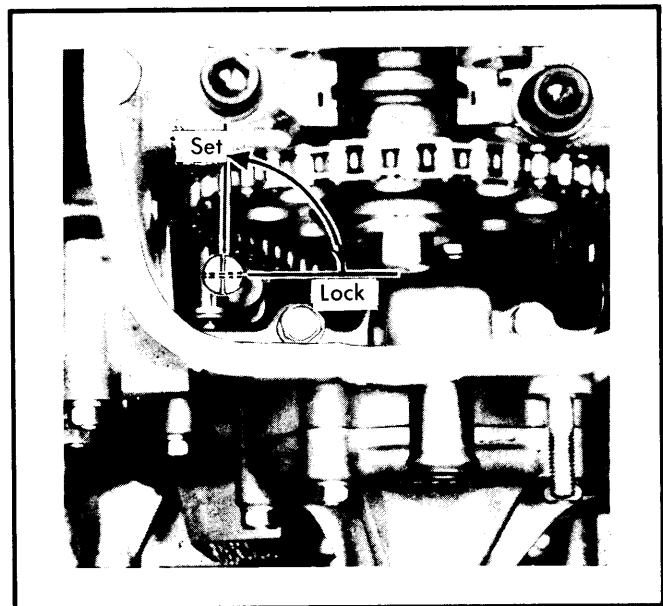
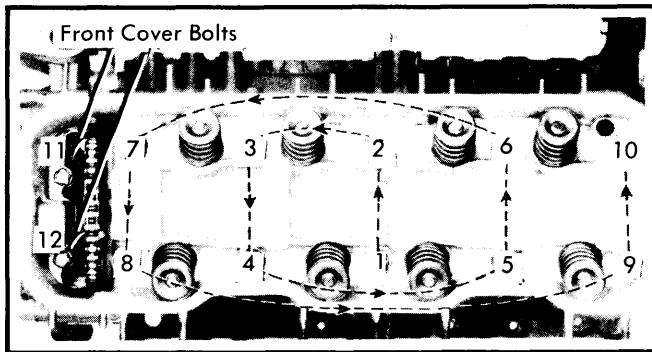
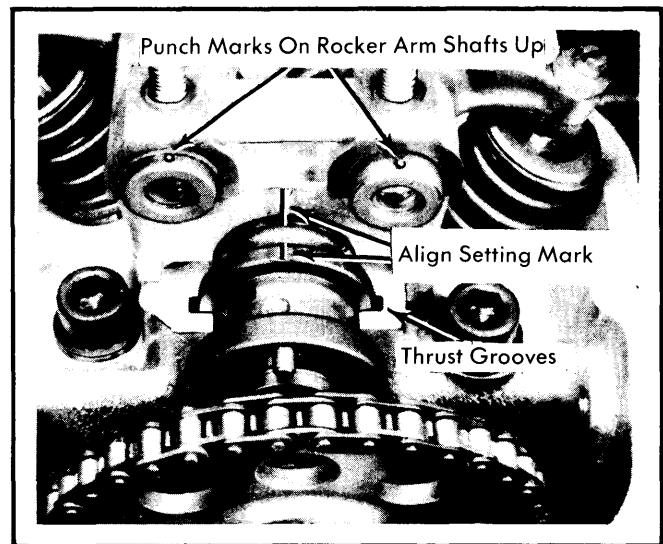

Fig. 1 Locking Timing Chain Adjuster
Fig. 2 Cylinder Head Bolt Loosening & Tightening Sequence
Fig. 4 Installing Camshaft & Rocker Arm Assembly
2) Remove EGR pipe clip from rear of cylinder block, and disconnect exhaust pipe from manifold. Remove cylinder head cover, lock timing chain in place (See Fig. 1), and separate sprocket from camshaft. Disconnect air hoses from check valve and AIR pump. Remove air bypass valve and bracket, and remove two bolts securing front cover and cylinder head. Loosen cylinder head bolts in sequence shown in Fig. 2. Remove cylinder head with exhaust and intake manifolds.
2) Align cylinder head over dowels, oil cylinder head bolt threads and install bolts. Install two bolts securing front cover to cylinder head. Tighten cylinder head bolts in sequence (See Fig. 2) in two stages. Tighten securely front cover-to-cylinder head bolts.
2) Align mark on camshaft with mark on No. 1 rocker arm shaft bracket by turning crankshaft, Fig. 4. Lock the automatic chain adjuster in free state, by pressing downward on pin while turning it 90 degrees clockwise (See Fig. 1).
Installation — 1) Lubricate camshaft and rocker arm assemblies well prior to installation. Install camshaft, aligning thrust grooves, Fig. 4. Be sure punch marks on rocker arm shafts are in upward position.
2) Install rocker arm shaft bracket assembly and align camshaft mark with mark on No. 1 rocker arm shaft bracket. See Fig. 4. Tighten rocker arm shaft bracket nuts to 16 ft. lbs. (2.2 mkg) torque, while holding rocker arm springs with an adjustable wrench.
3) Align crankshaft pulley groove with TDC mark ("O" mark) on front cover. Be sure No. 4 cylinder (rear) is at TDC. Align sprocket hole with camshaft pin. Install sprocket and tighten bolt to 58 ft. lbs. (8.02 mkg). Set automatic chain adjuster by turning pin 90 degrees counterclockwise (See Fig. 1). Be sure chain is tensioned.